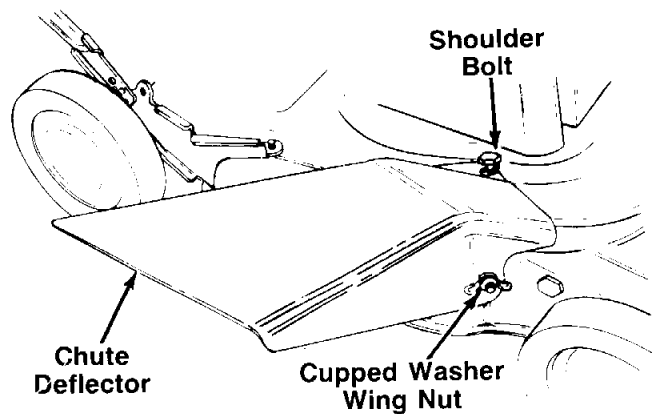

FIGURE 19.
3. Secure the front of the chute deflector to the bolt on the side of the deck with one cupped washer and wing nut. See figure 19.